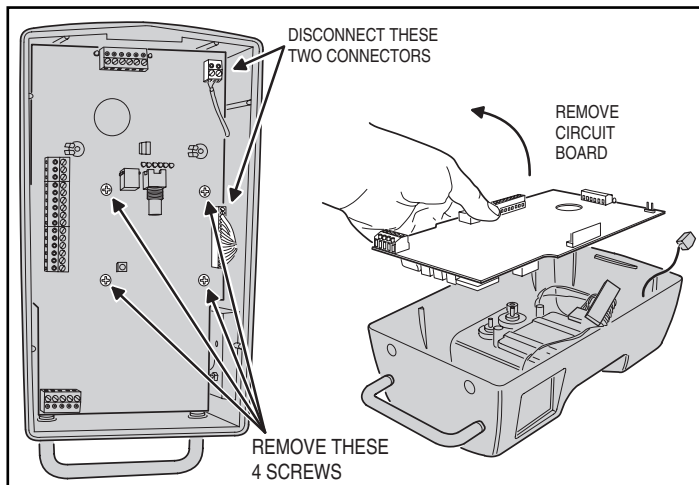

Figure 16. Removing the RE-1 Circuit Board
1. Disconnect the wiring harness connector and remove the antenna terminal block. Remove the four circuit board retaining screws and the RE-1 circuit board (see Figure 16).